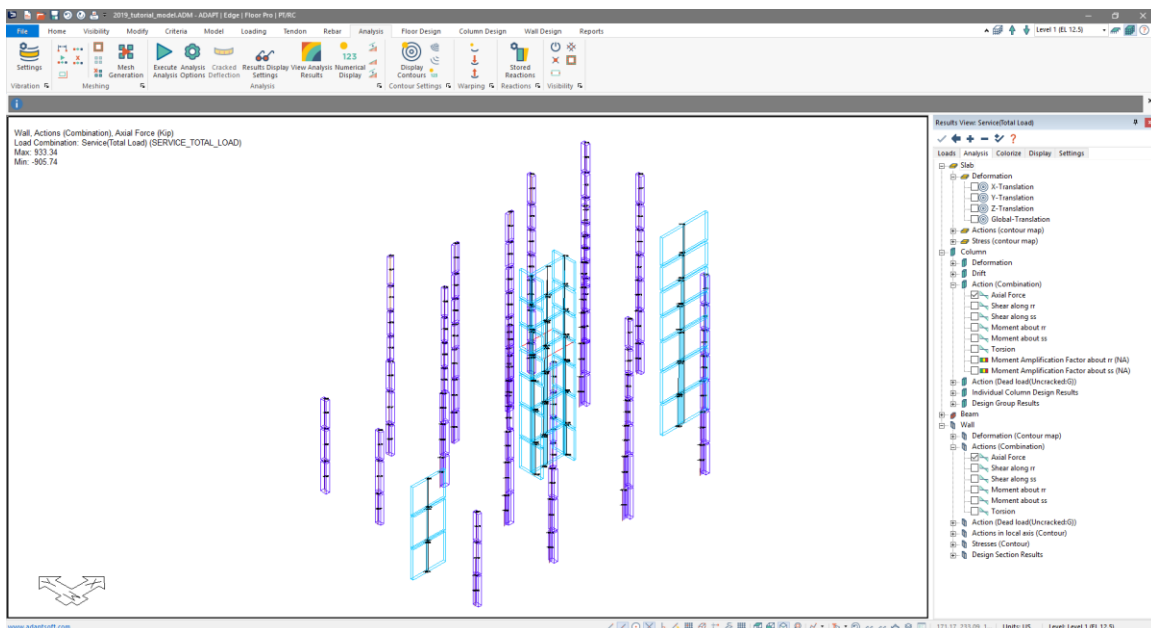

Figure 6-17
- Check the box next to *Axial Force*. The user at this point should see the axial force diagram along the column and wall stacks as shown in **FIGURE 6-17**.